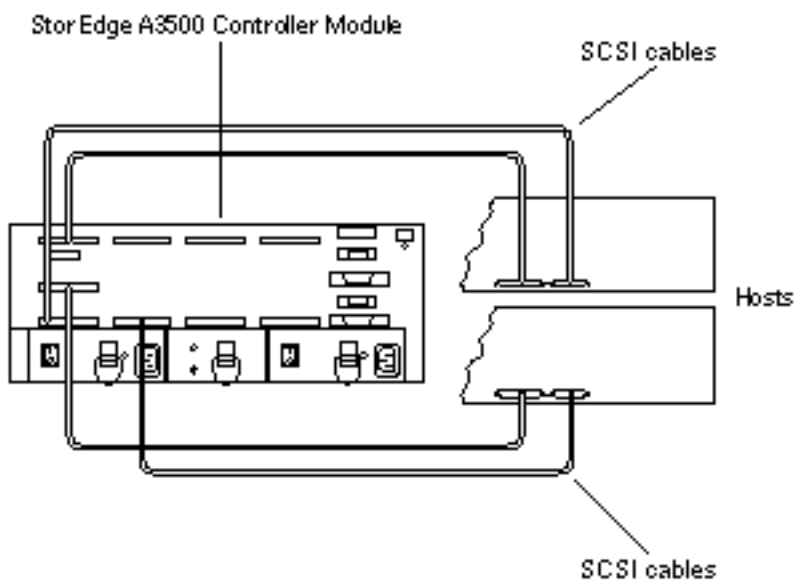

Figure 7-3 Example of a StorEdge A3500 disk array
16. Connect the disk array to the host adapters using differential SCSI cables as shown in Figure 7-3.